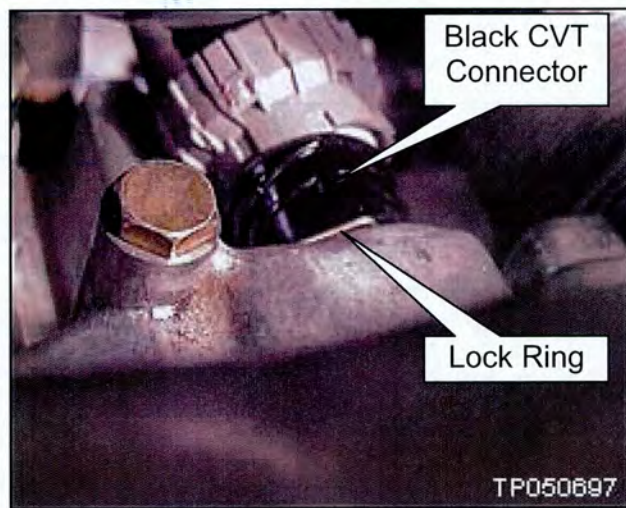

Figure 4
11. Remove the large lock ring holding the black CVT connector to the transmission case (see Figure 4).